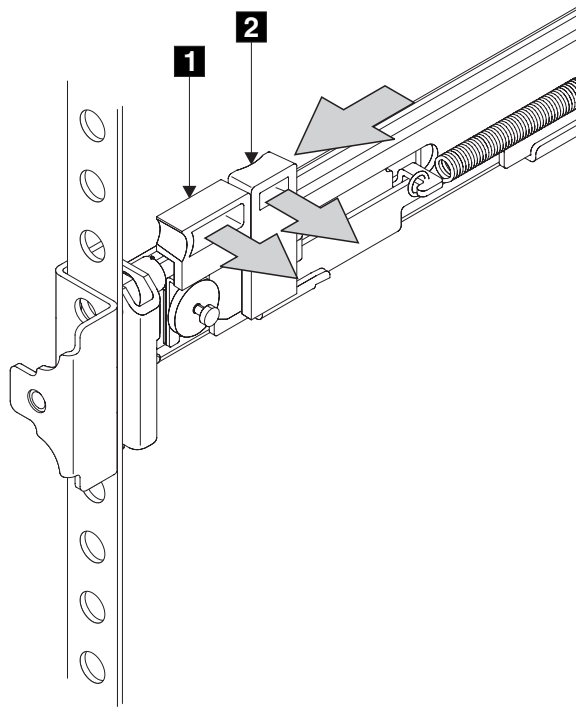

Figure 42. Closing the latch-lock carrier assembly
8. Push the latch lock **2** (Figure 42 on page 79) away from the rail to release the carrier. The latch-lock carrier slides toward the front of the rack and the locating pins project through the holes that are in the front flange and in the front rail bracket.